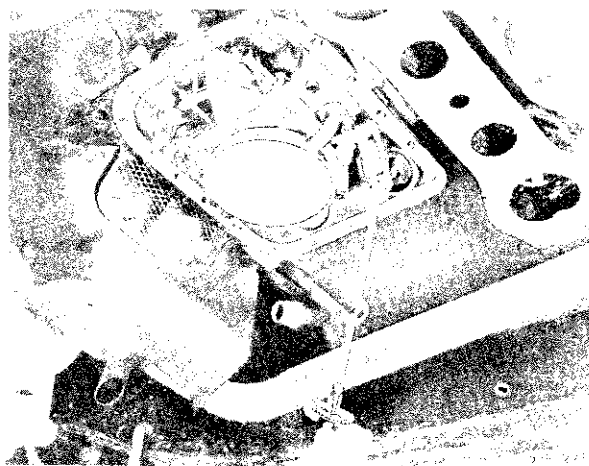

Fig. 6—Adjusting the Reverse Band (Typical)
(1) Drain transmission and remove transmission oil pan.
(2) Loosen reverse band adjusting screw locknut and tighten adjusting screw from 20 to 25 inch-pounds, as shown in Figure 6. Back out adjusting screw 12 turns. Holding adjusting screw in this location, tighten locknut securely (30-35 foot-pounds torque).
(3) Replace the transmission oil pan, using a new gasket and refill transmission with Automatic Transmission Fluid, Type "A", Suffix "A".